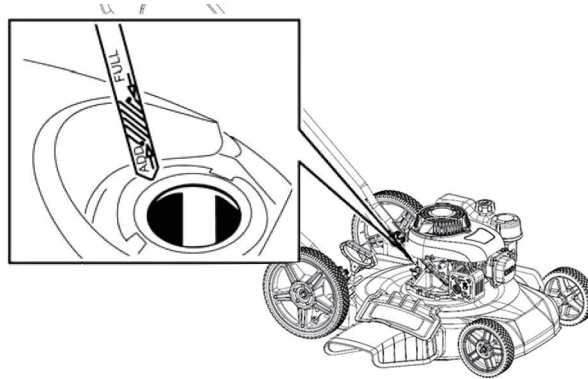

Figure 3
- Remove the dipstick.(Figure 3)